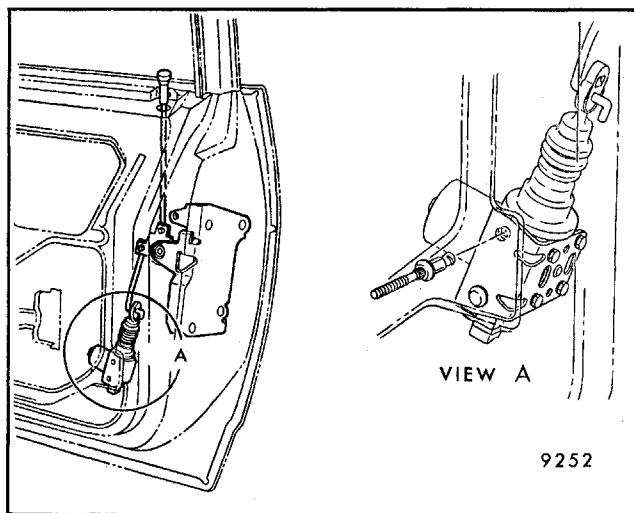

Fig. 5-55-Power Door Lock Actuator - Typical Installation
2. Punch out actuator attaching rivet center pins, then drill out rivets with 1/4" drill bit. Disconnect rod and wire harness, then remove actuator through access hole (Fig. 5-55).